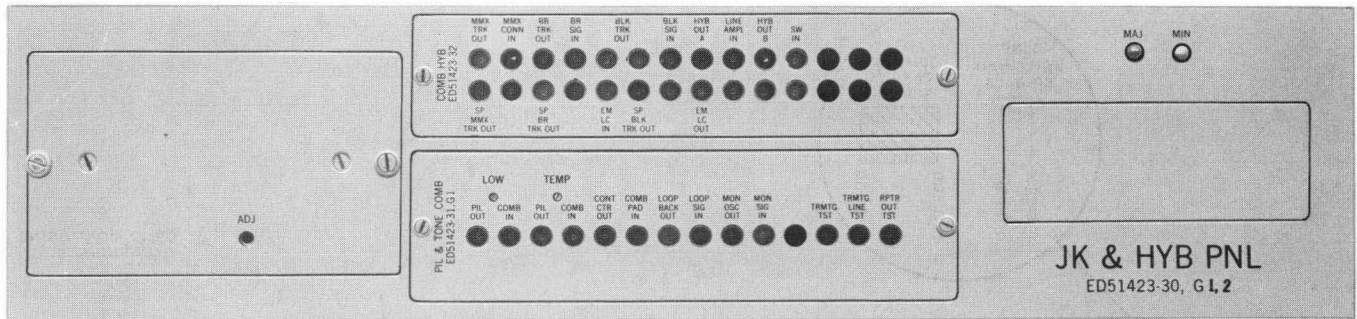

Fig. 3—Transmitting Jack and Hybrid Panel
- (c) ♦Jack and hybrid panel ED-51423 (Fig. 3) or ED-50710(MD).♦